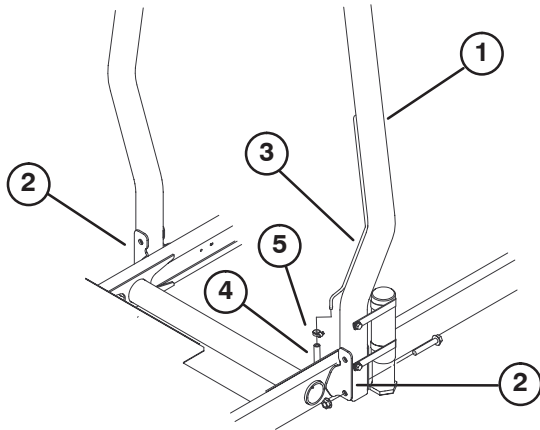

Figure 10
2. Secure each side of roll bar to mounting brackets with (2) flange head capscrews and locknuts (Fig. 10). Torque fasteners to 60 ft-lbs.